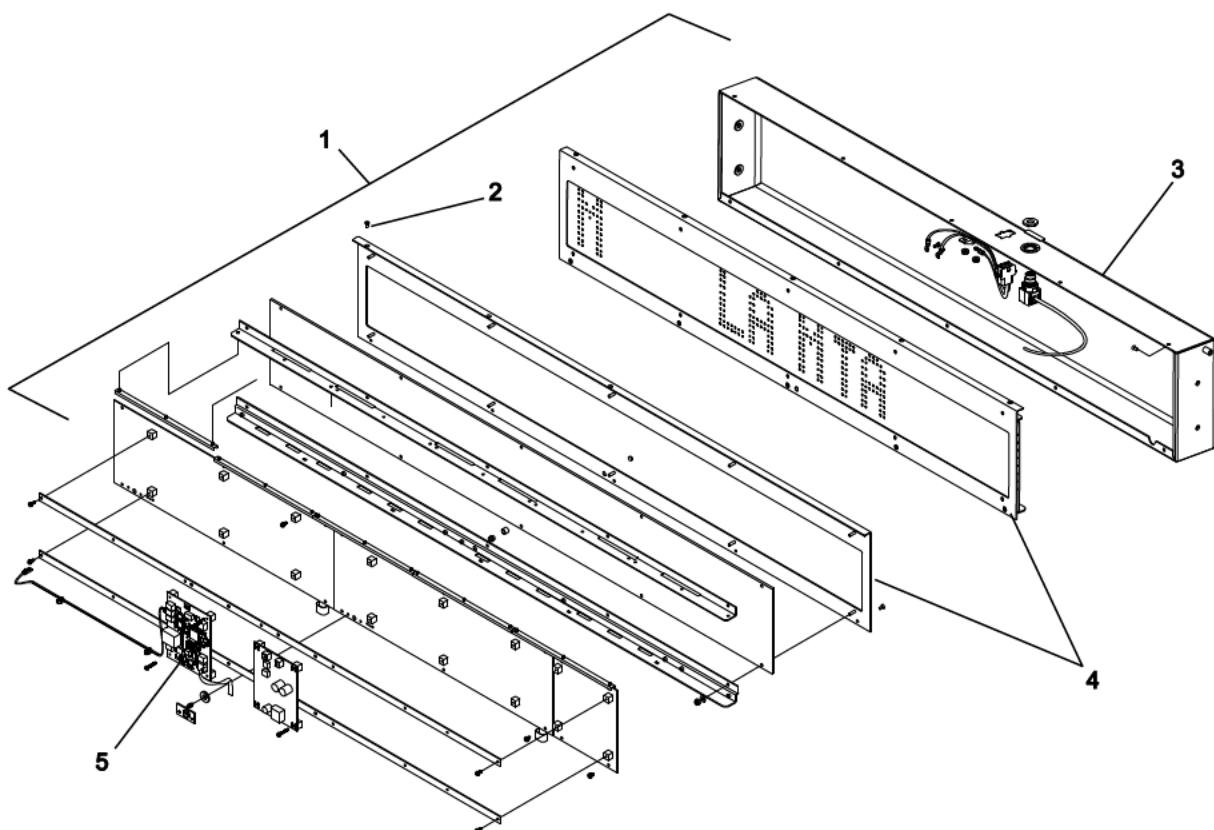

Figure 7-17: Replace Side Destination Sign Control PCB
1. Remove side destination sign assembly (1, Figure 7-17) from its mounted location.
2. Remove ten 6-32 x 5/16 FH Phillips screws (2) that secure the housing assembly (3) to front panel assembly (4).
3. Carefully separate the housing assembly (3) from front panel assembly (4) to access electrical wiring and harnesses.
4. Tag and disconnect electrical wiring connectors from the control PCB (5).
5. Remove control PCB (5) with RS-485 ports to the left.
6. Install replacement control PCB (5).
7. Connect electrical wiring connectors to the control PCB (5).
8. Install the housing assembly (3) to the front panel assembly (4) using ten 6-32 x 5/16 FH Phillips screws (2).